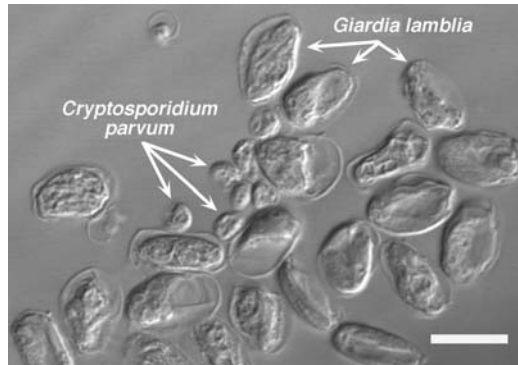

Figure 10.1
- Two protozoa causing serious intestinal illness are *Giardia lamblia* and *Cryptosporidium parvum* (Figure 10.1).⁸